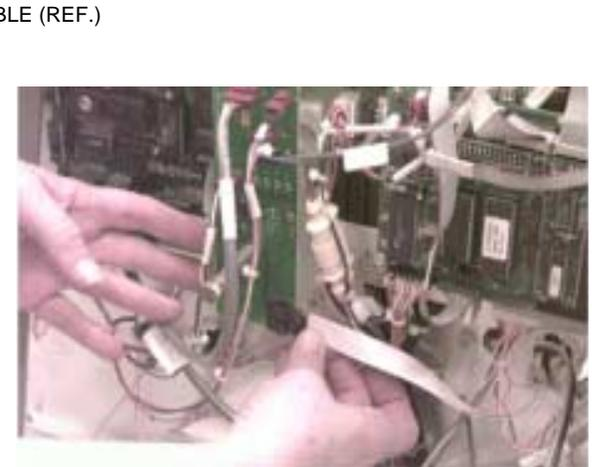

FIGURE 1.12.3b
- 1.12.2 Feed the flex cable from the XYZ assembly through the middle cut-out on the divider panel assembly. Connect the black flex cable connector to the socket (J6) on the lower right corner of the DY-Flex board as shown in figure 1.12.3b/c.